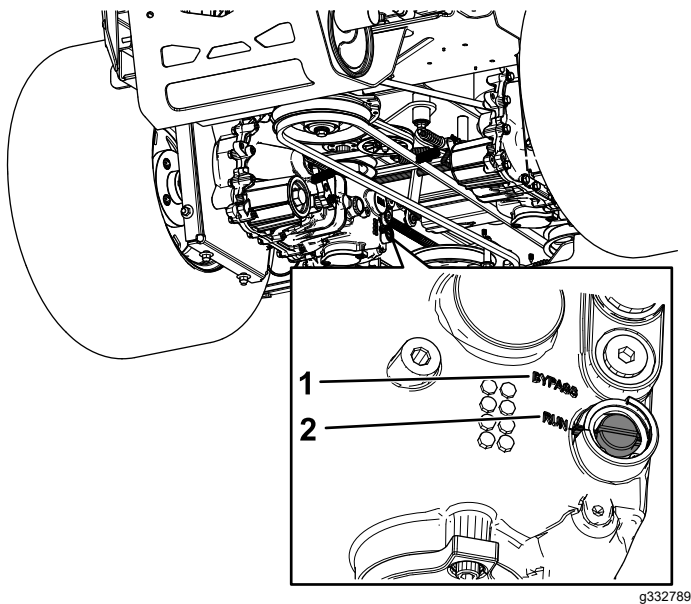

Figure 43
3. Using a flat-head screwdriver, rotate both cams to the BYPASS position (Figure 43).
5. To run the machine, rotate both cams to the RUN position (Figure 43).